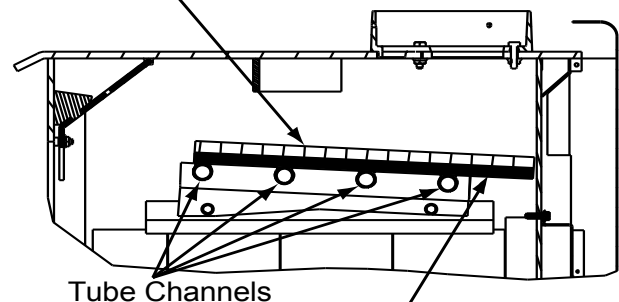

Figure 11.1
1. Confirm the baffle is correctly positioned. It should be even with the front tube and resting on all tubes. (**Figure 11.1**).